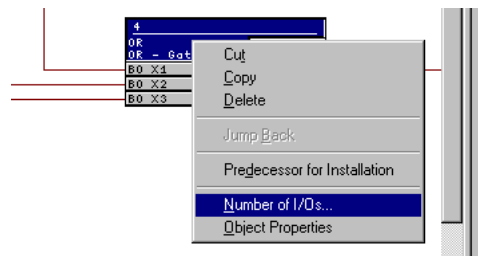

Figure 5-37 Example of an OR gate: module menu
The default run-time sequence is determined by the sequence of the insertion of the logic modules. You may redefine the run-time sequence by pressing <CTRL> – <F11> on the PC keyboard. Please refer to the CFC manual. The necessary function modules (FM) are contained in a library located to the right of the configuration chart. The module also indicates to which of the four run-time levels (MW_BEARB, PLC1_BEARB, PLC_BEARB, SFS_BEARB) it is assigned. The modules possess at least one input and one output. In addition to these inputs and outputs, which are displayed on the configuration sheet, a module may have additional inputs. The additional inputs can be made visible by selecting the module title block, pressing the *right* mouse button, selecting the menu option **Number Of I/Os...** (see Figure 5-37), and then increasing the number.